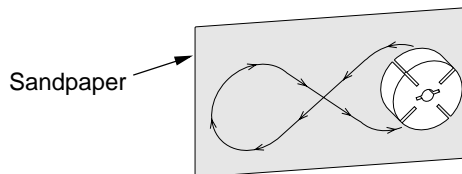

Figure 25 - Sanding Rotor
14. Place fine grade sandpaper (600 grit) on flat surface. Sand rotor lightly in "figure 8" motion four times (see Figure 25).